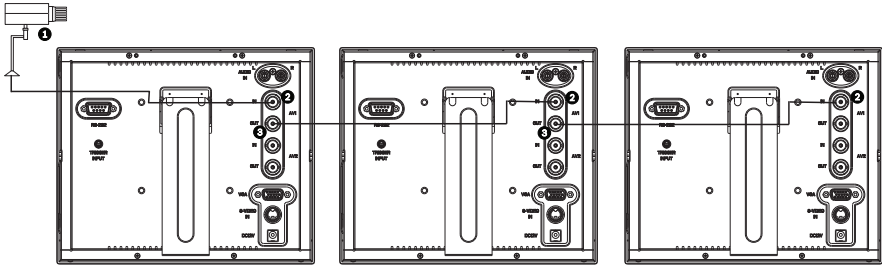

Figure 5.6 Multiple Monitor Configuration
Up to three (3) monitors may be connected in this manner (see *Figure 5.6*).